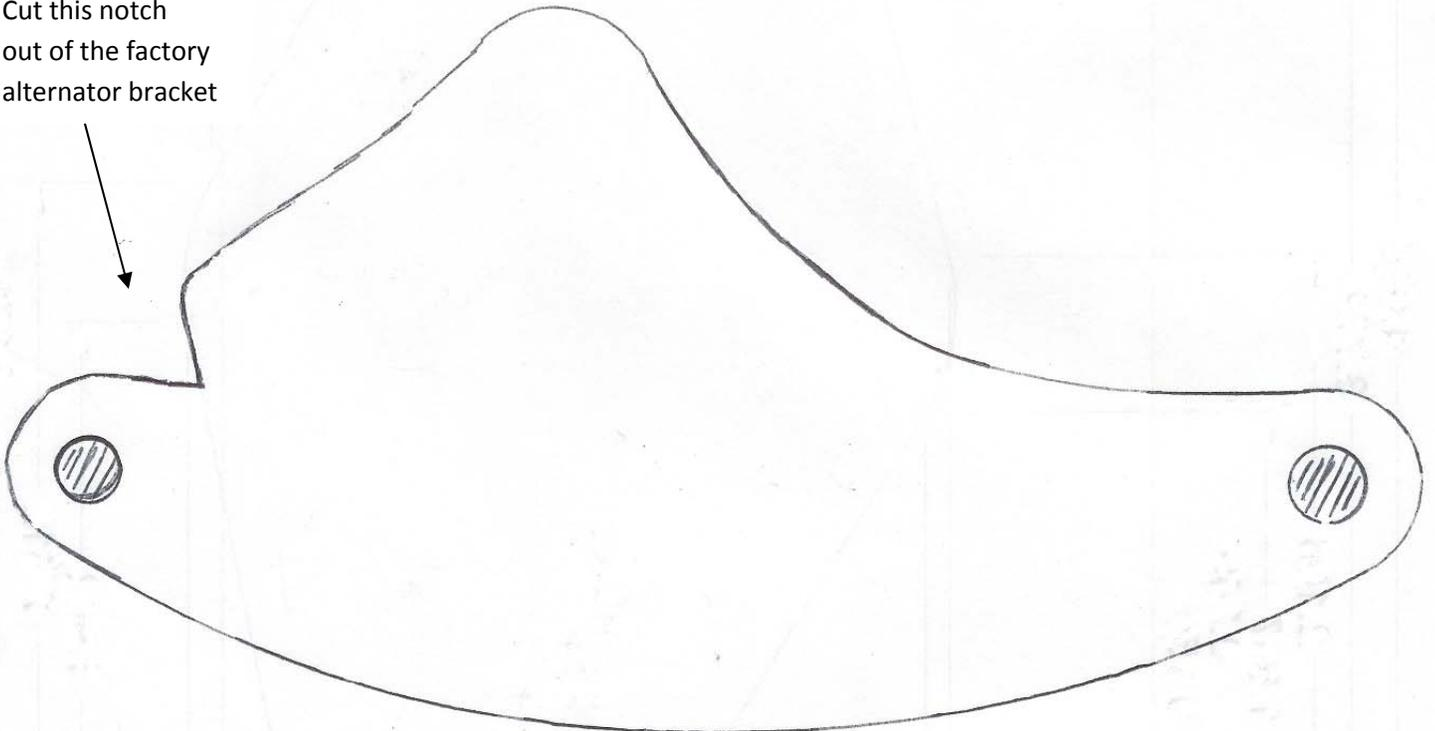

Figure 1 – Modification to Factory Alternator Bracket
7. If you will be using the factory alternator brackets, take the factory bracket and trim it to remove the notch as shown in Figure 1. Figure 1 from this instruction sheet can be cut out and used as a template to locate the notch on the bracket. Once the notch is removed, bolt the bracket onto the right side water pump adapter with the supplied 3/8-16 1/2" Allen head bolts. Also, bolt the factory alternator adjustment arm onto the right side adapter with the third 3/8-16 1/2" Allen head bolt; see Photo 3. Install a belt between the crank pulley and the alternator; the belt shown in Figure 4 is Napa number 25-7385. This belt is 39 1/8" long.